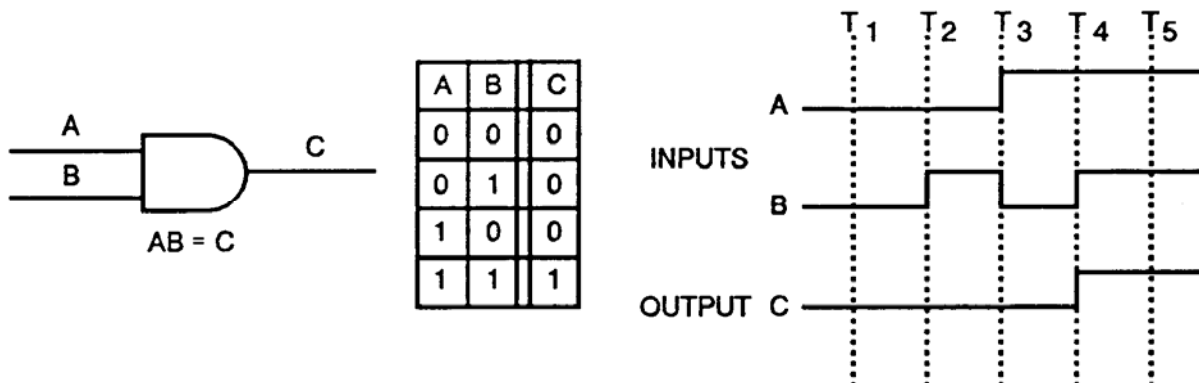

Figure Q-5. AND Gate
b. AND function. An AND gate performs the mathematical operation of conjunction as discussed earlier. It requires that all inputs are present at the same time to get an output. The symbol for an AND gate is shown in Figure Q-5 along with the Boolean algebraic expression, truth table, and waveforms.